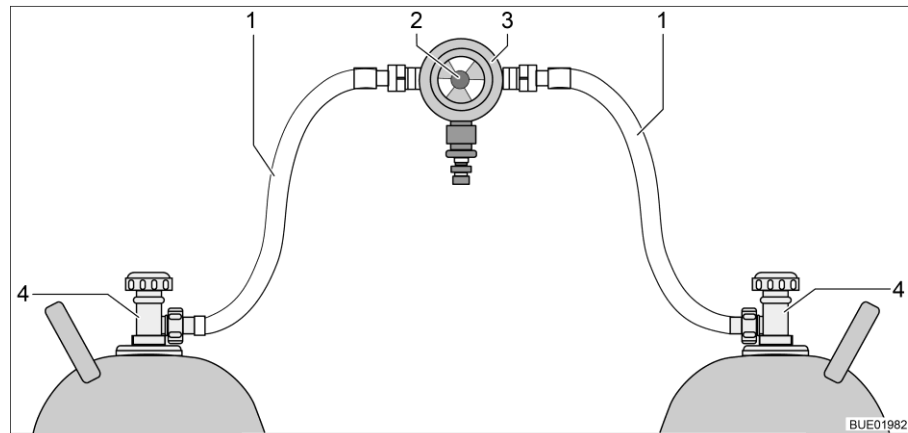
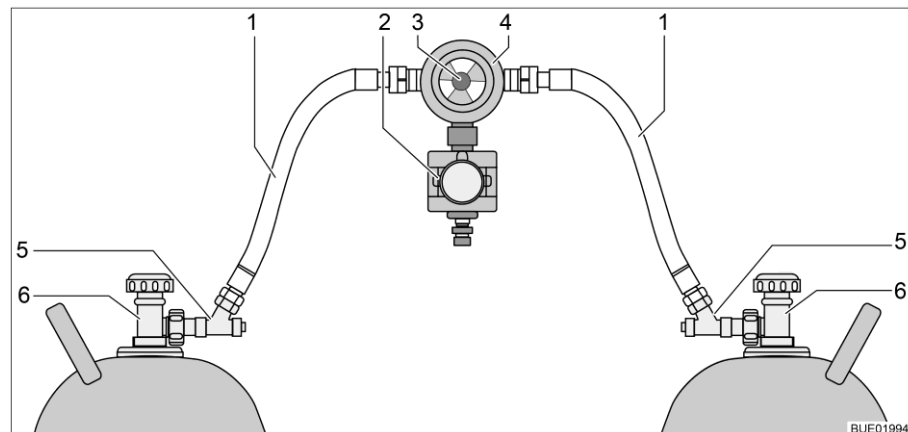

Fig. 63 Gas bottle switching facility
Fig. 64 Gas bottle switching facility with CPU
The gas bottle switching facility consists of a combined gas pressure regulator with reversing valve and indicator (Fig. 63,3). The gas bottle switching facility is installed between the two gas tubes (Fig. 63,1).
The gas bottle switching facility consists of a combined gas pressure regulator with reversing valve and indicator (Fig. 64,4), and an electrovalve (Fig. 64,2). The electrovalve blocks the gas supply to the vehicle in the event of a full braking, an accident, or an unusually great inclined position. The gas bottle switching facility is installed between the two gas tubes (Fig. 64,1) with hose break guards (Fig. 64,5).
Function The gas bottle switching facility ensures a constant gas pressure, regardless of which gas bottle is being drawn upon. The display in the reversing valve shows the filling level of the primary bottle. The gas supply comes from the primary bottle when the display is green. When the display is red the primary bottle is empty. In this case, the reserve bottle is used for the gas supply. Use the knob (Fig. 63,2 or Fig. 64,3) on the gas bottle switching facility to select which of the gas bottles is to be used as a primary bottle and which is to be used as a reserve bottle.
Only the electrical functions can be switched at the operating unit (Fig. 65). The regulator taps on the gas bottles (Fig. 63,4 or Fig. 64,6) must be opened and closed manually.
- Open the regulator taps of the gas bottles (Fig. 63,4 or Fig. 64,6).
- Press the hose break guards (Fig. 64,5) successively for 10 seconds.
- Use the knob (Fig. 63,2 or Fig. 64,3) on the switching facility to select the gas bottle which is to be the primary source of gas (primary bottle). Always turn the knob as far as it will go.
- Close the regulator taps of the gas bottles (Fig. 63,4 or Fig. 64,6).